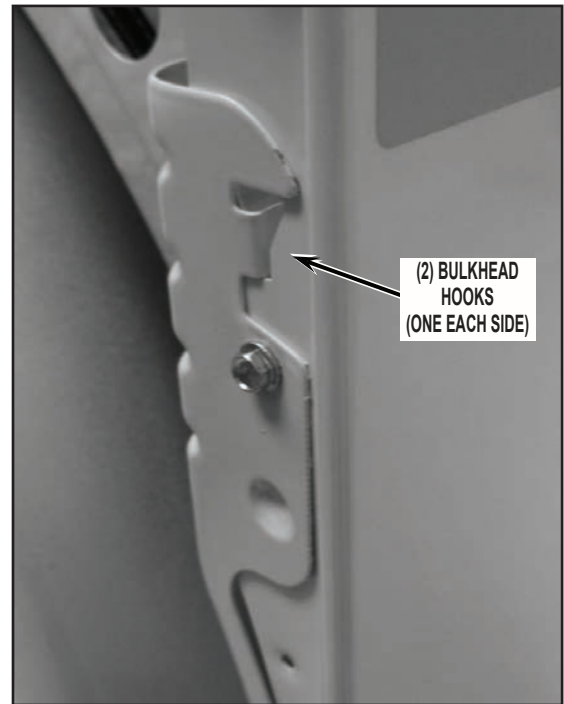

FIGURE 8
10. Remove the front bulkhead and lint duct assembly by lifting it off the two (2) front hooks (See *Figure 8*) and then lowering it to clear the drum support rollers from the drum front.